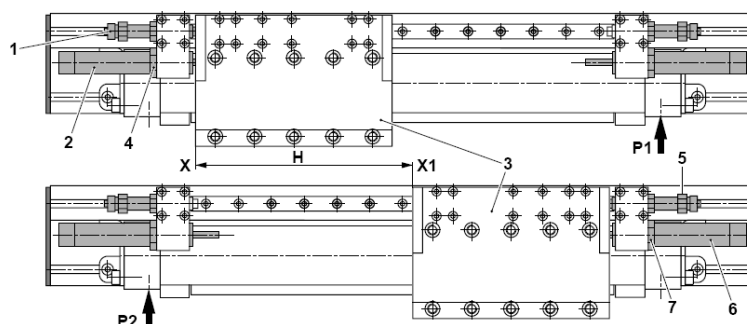

Fig. 32 Adjustment of shock absorber PMP-c
- The slide (Fig. 32, 3) of the module moves to the limit by the stop screw (Fig. 32, 1) in position X.
2. Screw in the shock absorber (Fig. 32, 2) clockwise.
- The damper pin is pressed into the damper until the slide (Fig. 32, 3) starts to move.
3. Now unscrew the shock absorber (Fig. 32, 2) counterclockwise two turns and secure it with the lock nut (Fig. 32, 4).
- The slide (Fig. 32, 3) of the module moves to the limit by the stop screw (Fig. 32, 5) in position X1.
5. Repeat steps 2 and 3 with shock absorber (Fig. 32, 6).
6. Secure shock absorber with lock nut (Fig. 32, 7).